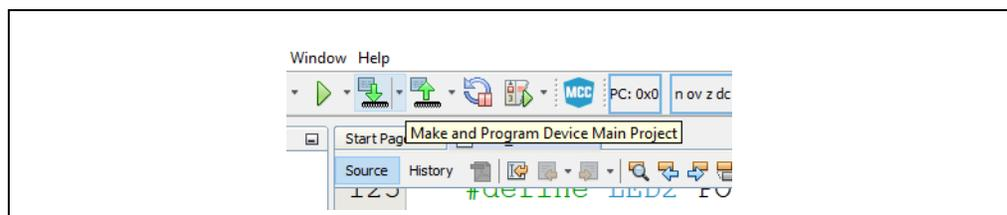

FIGURE 2-12: Compile and Program the Code.
- 2m) Copy and paste the code to the `DAC_SAMPLE.c` file (make sure the code and comments are copied correctly). Connect the micro-USB cable to the micro-USB header on the left side of the Curiosity HPC Board using a micro-USB cable to provide power to the board. Press the icon shown in Figure 2-12 to compile and program the code.